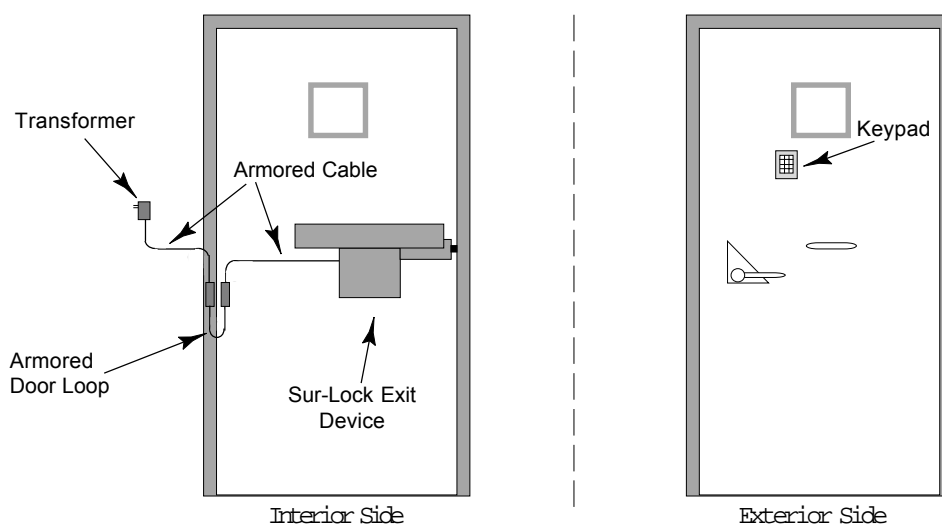

Figure 4: Alternate Mounting Locations for Keyless System
3. Mount the exterior keypad to the door (refer to the Sur-Lock 2000EE Installation Instructions). Alternately, you may mount the keypad in a different location on the door using the longer keypad cable supplied in the kit (see Figure 4).